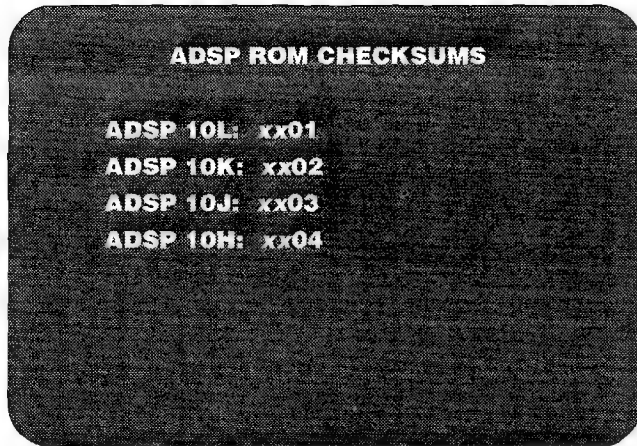

Figure 2-25 ADSP ROM Checksums Tests Screen
- *ROM Checksums* tests the graphic ROMs on the ADSP PC board. When the checksum test is complete, a hexadecimal number follows each ROM as shown in Figure 2-25, on the next page. The first two digits in each hexadecimal number can be any number, but the last two digits must be the ones shown in Figure 2-25. If the last two numbers are different, then the ROM is bad or it is not on the board.